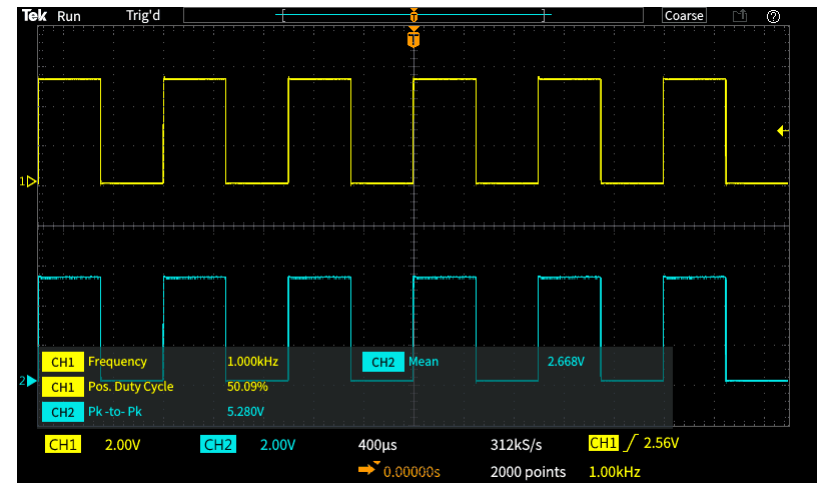

Figure 14. Transparent readouts let the signal show through
8. Note the measurement readout (Figure 14).